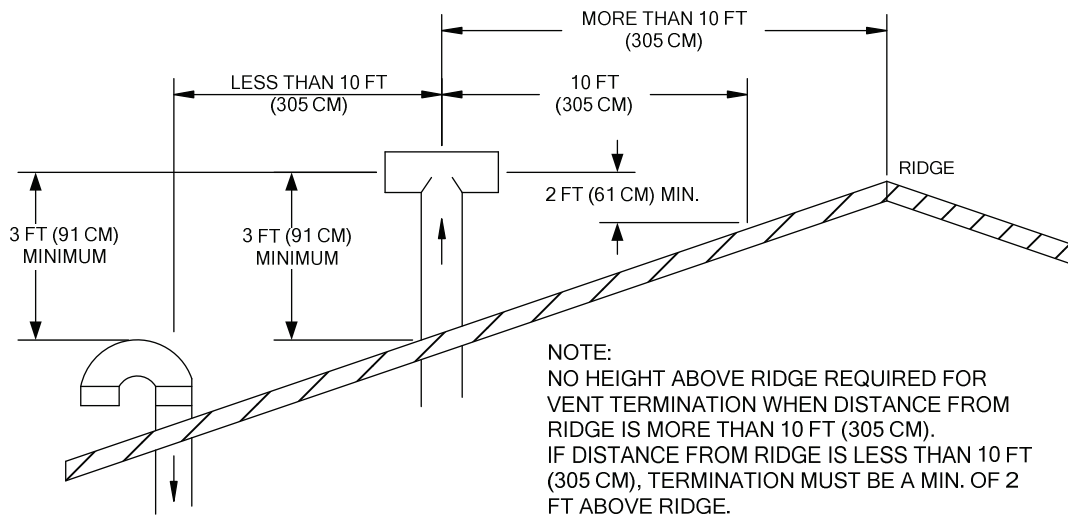

FIGURE 13
- b. Combustion air inlet must be 3 ft below any vent outlet, within 10 ft. See Figure 13.
- d. Combustion air inlet must also face away from the vent outlet see Figure 13.